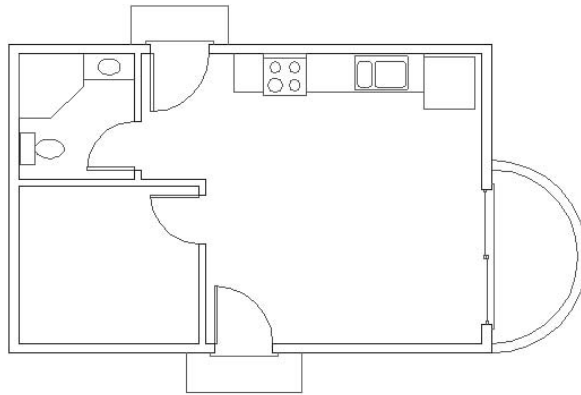

FIGURE 7.2: The floor plan with the Headers and Roof layers frozen
2. The Doors layer should be visible in the Layers drop-down list on the Object Properties toolbar, because we set it to be the current layer at the end of Chapter 6. Click the drop-down list again, and this time click the sun icons for the Roof and Headers layers to freeze them. The suns turn into snowflakes. Then click the Doors layer to close the list. The Doors layer is now current, and the headers and roof lines are no longer visible in the drawing (see Figure 7.2).
This view looks the same as the view you started with at the beginning of this chapter; see Figure 7.2, shown earlier. Blocks look the same as other objects, and you can't detect them by sight. They're useful because you can use them over and over again in a drawing or in many drawings and because the block is a grouping of two or more (and sometimes many more) objects into a single object. Our next task is to learn how to detect a block, but first, I want to discuss AutoCAD's dynamic block feature.